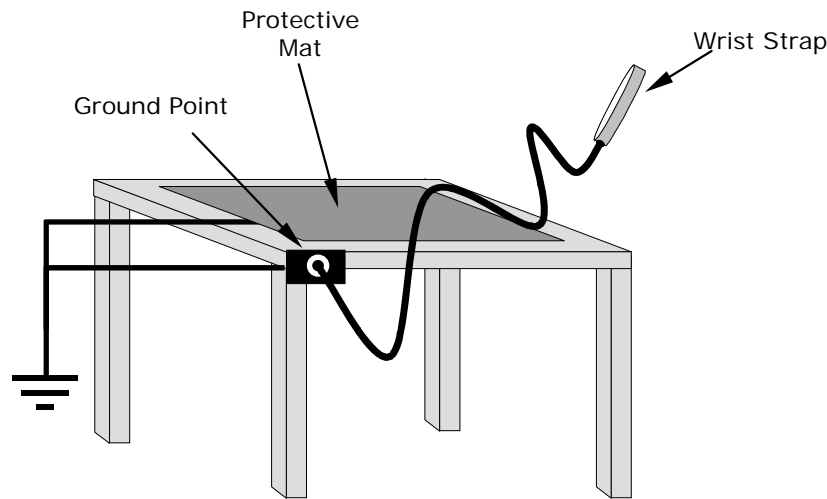

Figure 12-2: Basic anti-ESD Work Station
**Only handle or work on all electronic assemblies at a properly set up ESD station.** Setting up an ESD safe workstation need not be complicated. A protective mat properly tied to ground and a wrist strap is all that is needed to create a basic anti-ESD workstation (see Figure 12-2).